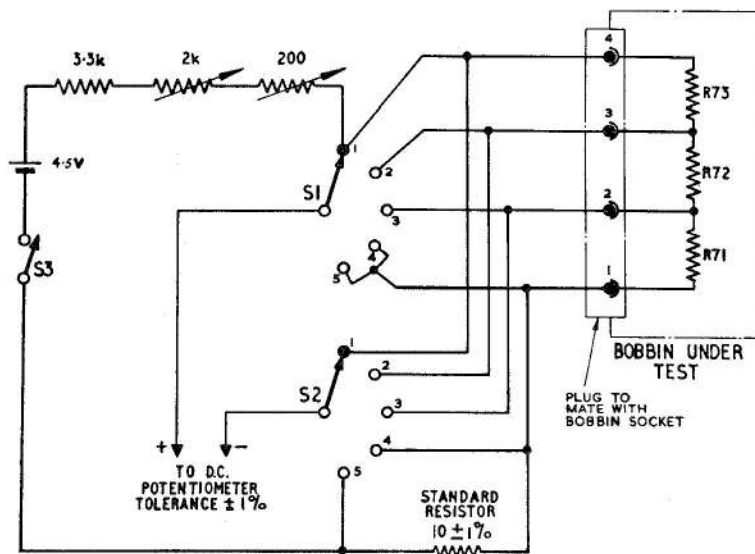

Fig. 3. Test circuit
R73, (although in some units the resistors are designated R74, R75 and R76). The resistors are wound from manganin wire and the ends terminated in four sockets at the base. The unit is attached to the amplifier by a plug and socket arrangement, with four outside sockets which carry the electrical connections (*fig. 3*), and central pin and bush for correctly locating and securing the unit to the amplifier. The central pin on the amplifier is threaded at the end and mates with a threaded socket inside the bobbin. To fit a datum selector to an amplifier, correctly locate the flat on the amplifier pin with the flat of bush in the datum selector, and push the selector home, finally securing the unit by screwing down the knurled-knob.
5. As a first check of a unit's serviceability, the resistance should be measured between poles 1 and 4, using a resistance bridge. The resistance should be of the order of $R71 + R72 + R73$ (App. 1 and 2). Continuity should then be checked between poles 1 and 2 and between poles 1 and 3. To test that the resistors are within the manufactured tolerances given in Appendices 1 and 2, a d.c. potentiometer and a circuit arrangement as shown in fig. 3 is required. The procedure for doing this is as follows.
6. (1) Set S1 to position 4 and S2 to position 5, Set R1 and R2 to approximately mid-travel and close S3.